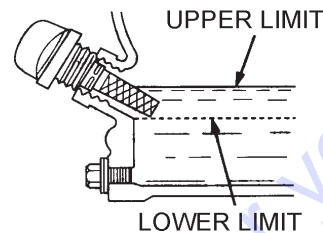

**Figure 8. Engine Oil Dipstick (Removal)**
2. Remove the filler dipstick from the engine oil filler hole (Figure 8) and wipe it clean.